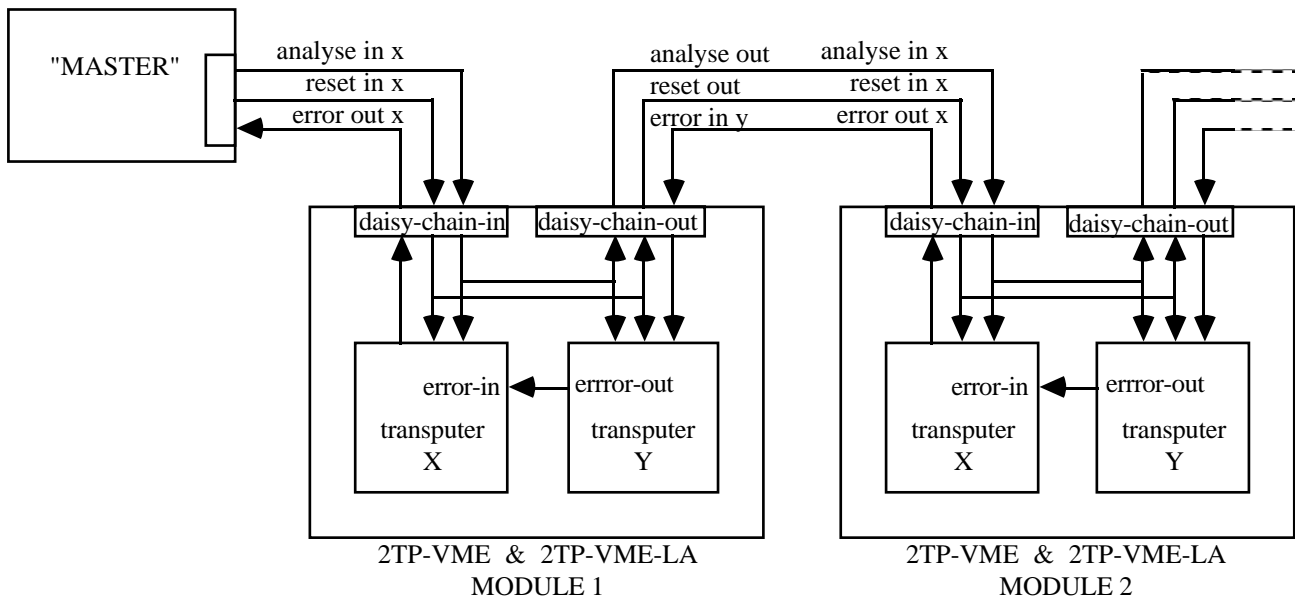

Figure 3. An example configuration with jumper block DAISY CHAIN in position ON.
- DAISY-CHAIN = ON: a daisy-chained analyse-reset-error connection wherein the transputers of the 2TP-VME Module are placed in a daisy-chain together with other transputers. For an example with two 2TP-VME Modules, see figure 3: The error-in and error-out pins of all the transputers are daisy-chained. The error-out of the first transputer in the daisy-chain is coupled to the master. The analyse-in and reset-in of the first transputer in the daisy-chain is coupled to the master. From there the analyse and reset commands are "bussed" to all the other transputers.